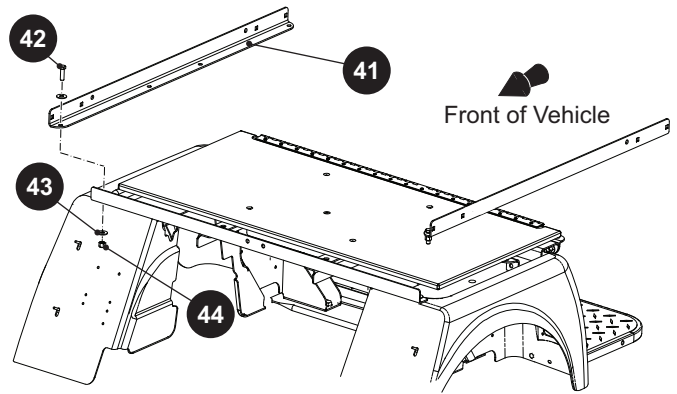

Fig. 5 Seat Frame
- Remove the bolts (42), flat washers (43), and lock nuts (44) that secure the seat frame (41) to the main frame of the vehicle (Ref. Fig. 5).